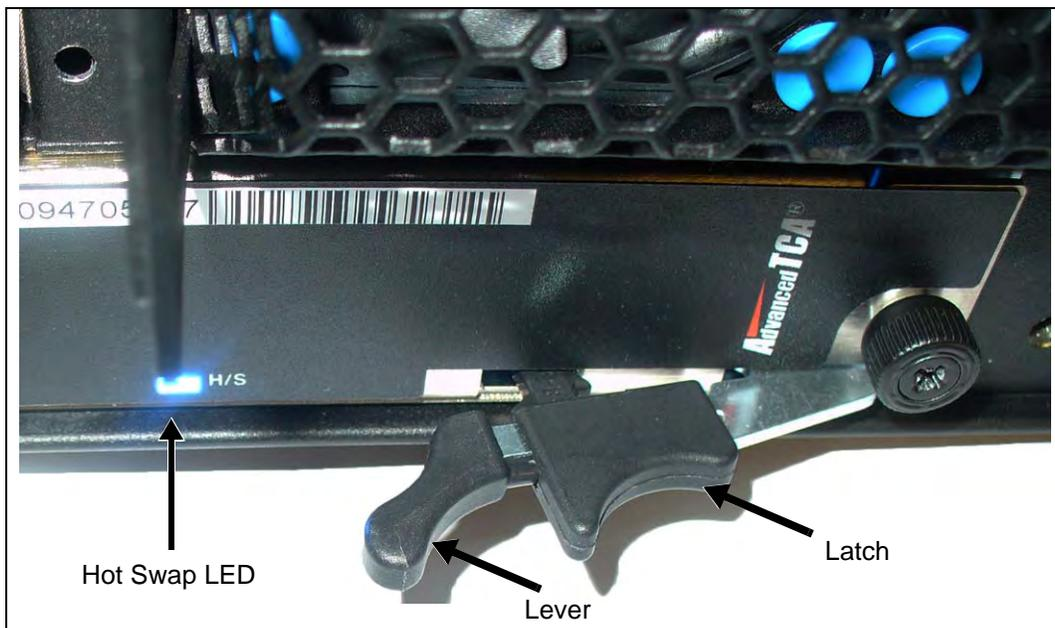

Figure 5.19 - IAP Right Ejector Handle - Hot Swap Position
1.	Pinch the latch and lever on the right ejector handle and pull the handle outward slightly as shown (Figure 5.19).